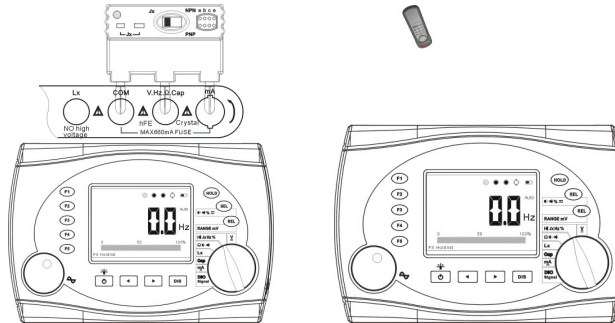

Fig21: figs for remote control (right) and crystal oscillator (left) measurements
2. Select the **Jx Hz %** position; connect the crystal accessory to the meter with plugging in **COM**, **V.Hz.Ω.Cap** and **mA** jacks (see the right Fig of the Fig21). Replace the switch on the crystal accessory to the **Jx** position, plug the test crystal oscillator and get the measuring result from the screen. The reading frequency is the Local Frequency of the crystal oscillator. (test range: 32kHz~10MHz, wrong result reading will be displayed if larger than 10MHz). If no reading on the screen, there are some reasons as the following: a, bad connection for crystal oscillator; b, the frequency is not in the test range; c, bad crystal oscillator; d, the fuse built-in the **mA** terminal is broken.
2. Turn the function switch to select the $\approx$ position. (Connect as fig21). Press the REL button to select 6.000V range and press SEL button to select DC mode. Select the hFE position and plug the transistor as the symbols “N” “P” “N”/ “P” “N” “P” printed on the crystal oscillator. The measuring reading is the amplify parameters of the transistor (1.000V – 1000 times).